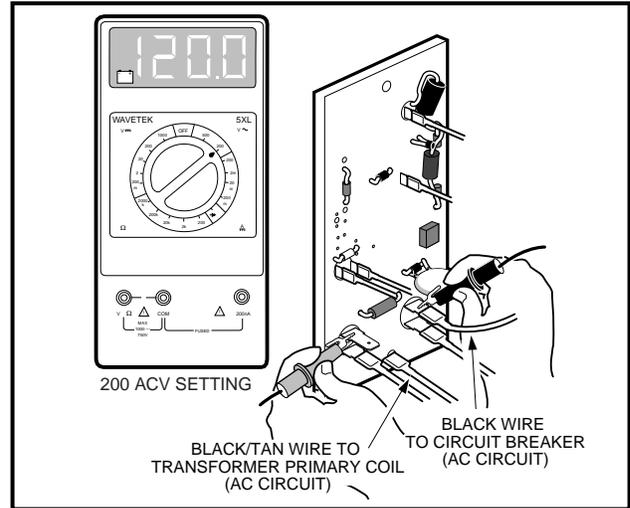

Figure 14-27 AC Circuit Test
2. Place black (-) probe of multimeter, set to 200 volts AC, onto terminal with black circuit breaker wire. Connect red (+) probe to terminal from which black/tan transformer wire was disconnected (**Figure 14-27, Page 14-27**).